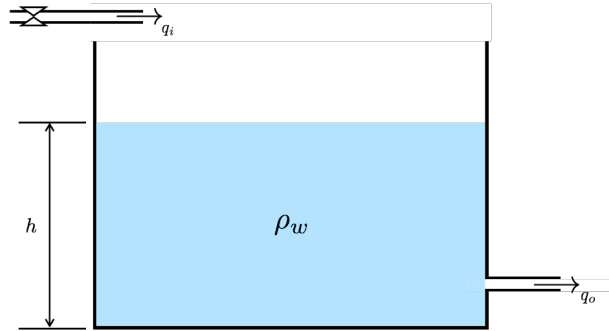

Figure 1: Fluid system
1. (1 points) Derive the equation of motion governing the system shown in figure 1.